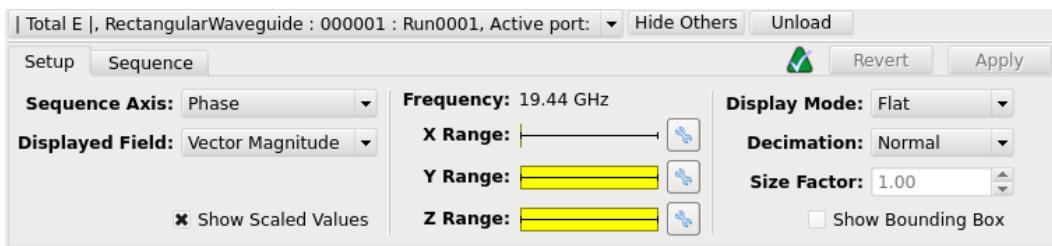

Figure 5.26: Field Control Panel
- Double click on E-FIELD (E) in the bottom pane. This will bring up the FIELD VIEWER in the GEOMETRY window.
- The way this result works is that you save all the fields in the 3D geometry. Then you choose the X, Y, and Z ranges to display a 2-D cut through this volume. In the middle column on the toolbar in Figure 5.26 you can see yellow bars indicating the ranges of the X, Y, and Z values. By default we are showing all values of Y and Z, and a single value in X indicating that we are showing the YZ plane.